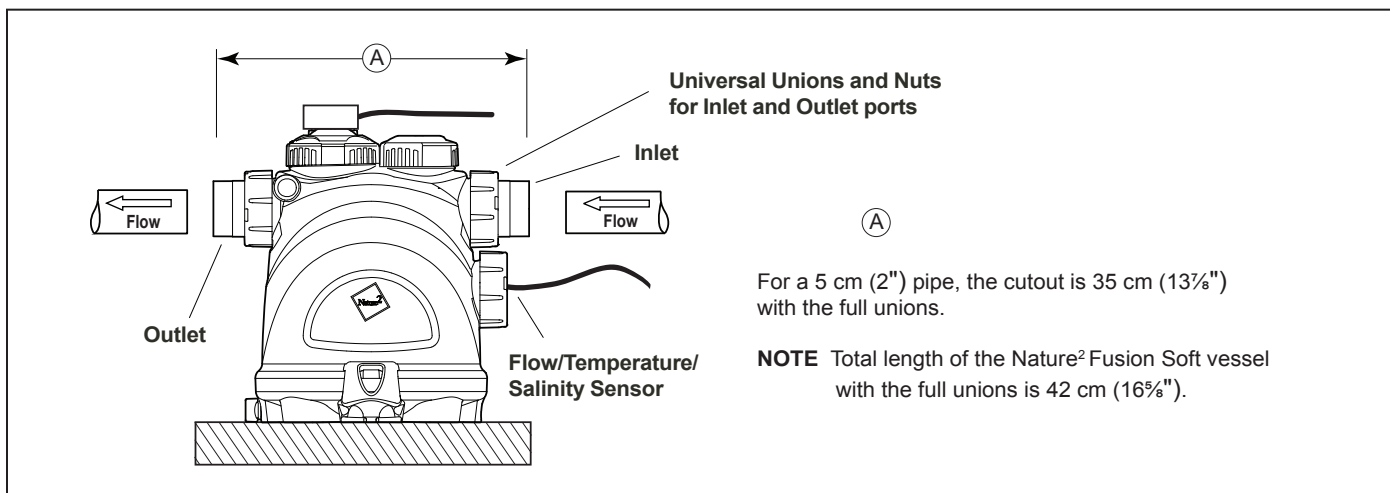

Figure 3. Pipe Cutout
4. Cut out a 35 cm (13 7/8") section of the 5 cm (2") pipe to insert the vessel (see Figure 3).
4. Cut out a 35 cm (137/8") section of the 5 cm (2") pipe to insert the vessel (see Figure 3).